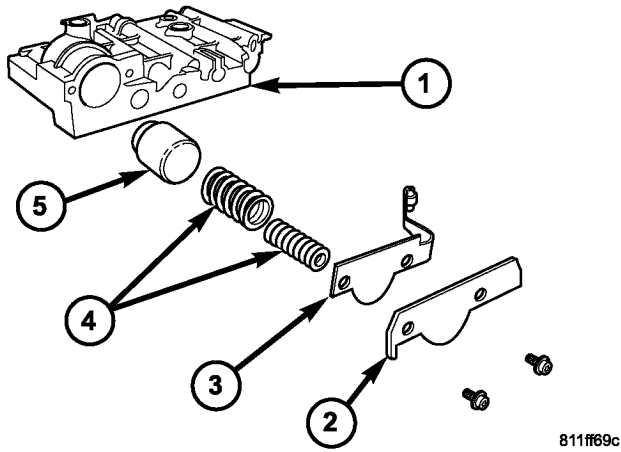

Fig. 321 2/4 Accumulator Assembly
(5) Remove 2/4 Accumulator components as shown in (Fig. 321).